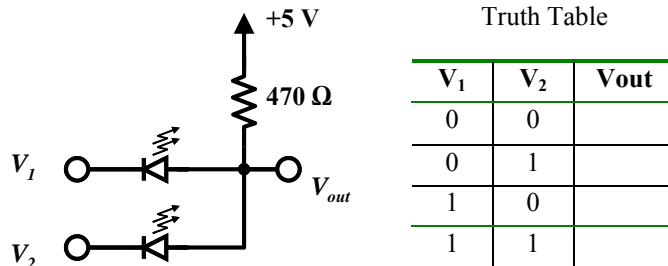

Figure 1-15 – Another diode logic gate. Fill out the truth table based your measurements: what kind of gate is this?
The gate in Figure 1-14 implements the logical “OR” function, since the output goes high whenever one OR the other input is high (or both). Another gate is shown in Figure 1-15, what kind of gate is this?
- Build the circuit in Figure 1-15 and make a truth table to describe its function.